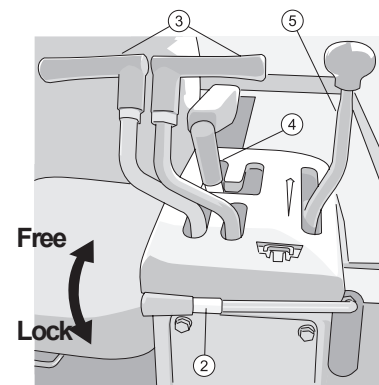

Figure 2-60
- Pull the throttle control lever (5) to let the engine idle at a mid-range speed for about 5 min. (Figure 2-60)